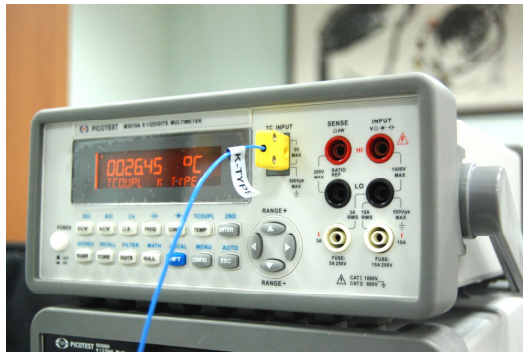

Figure 3-3
1. To measure thermocouple must be via a purposive sensor as shown in **Figure 3-3**.